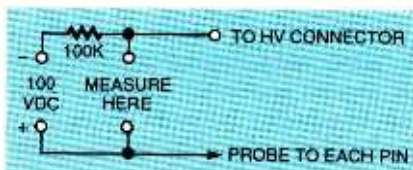

FIG. 3—IT IS IMPORTANT TO LOCATE the HV return. This circuit makes that easier to do.
- Use a 100-VDC or greater power supply and a high-value resistor, say 100K in the set up shown in Fig. 3. Connect the power supply negative output through this resistor to the HV lead on the flyback (suction cup connector). Check each pin on the base of the flyback with the probe. Touching the return pin will result in the voltage reading dropping to perhaps 50 or 60 volts. This is the forward voltage drop across the high-voltage rectifier stack inside the flyback. All other pins will result in it remaining at the supply voltage.